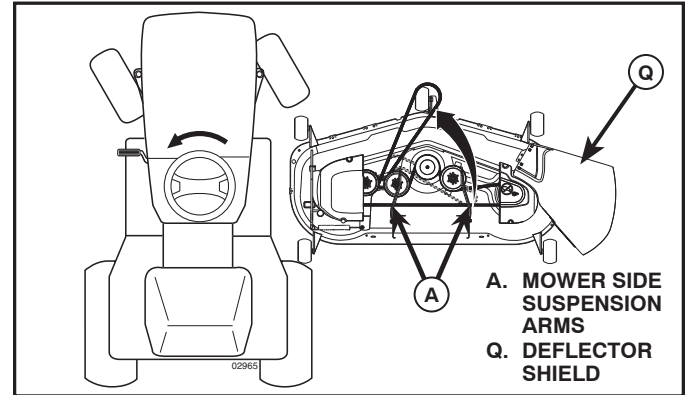

Fig. 7
## 4. SLIDE MOWER UNDER TRACTOR (See Fig. 7)
## 9 INSTALL BELT ON ENGINE CLUTCH PULLEY (M) (See Fig. 7 & 15)
- Disengage belt tension rod (K) from locking bracket (L).
- Install belt onto engine clutch pulley (M).